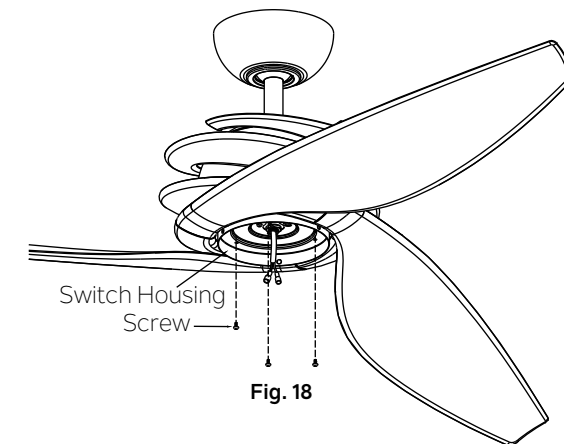

Fig. 18
**Step 1.** Remove the three screws in the switch housing. (Fig. 18)